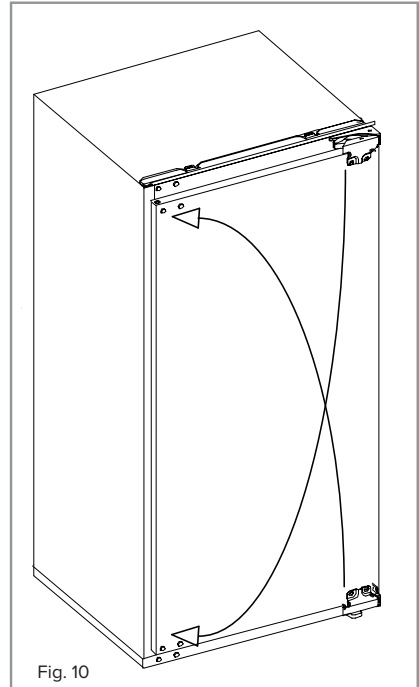

Fig. 10
6. Relocate the hinges to their opposing corners as shown in Fig. 10